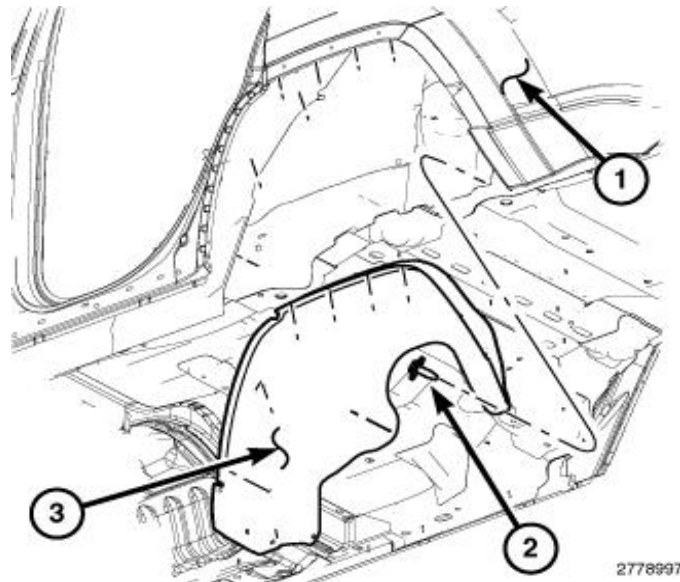

Fig. 3 Wheel House Splash Shield
6. Remove the left rear wheelhouse splash shield (3) (Fig. 3). Refer to the detailed service procedures available in DealerCONNECT> TechCONNECT > 23 - Body/Exterior/SHIELD, Splash - Removal.